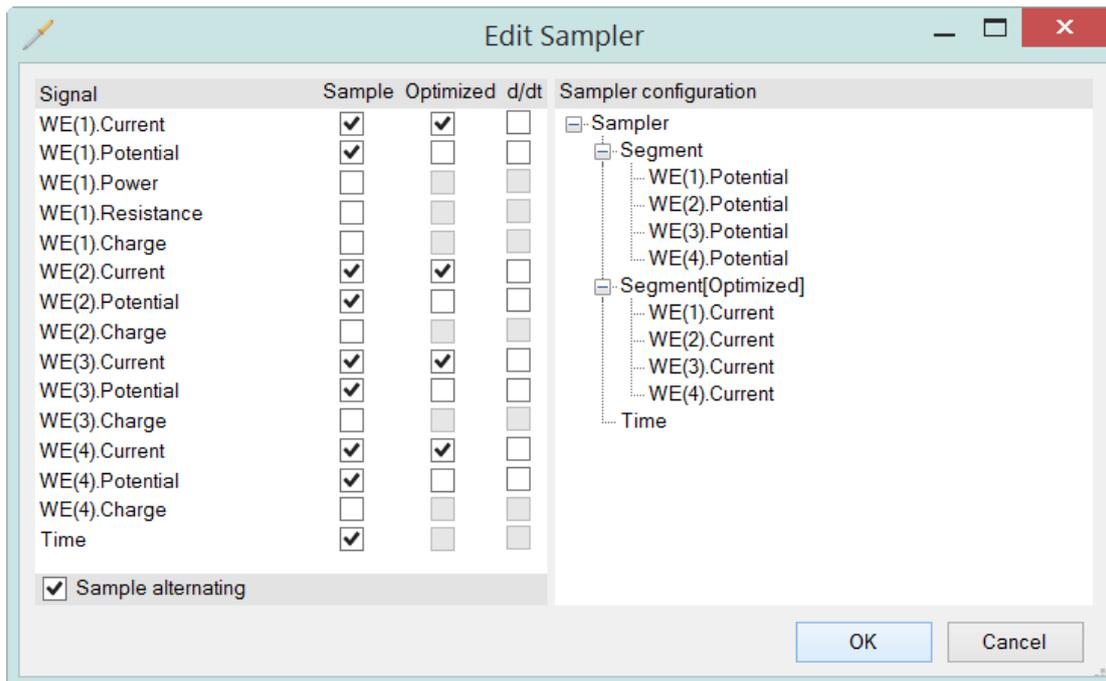
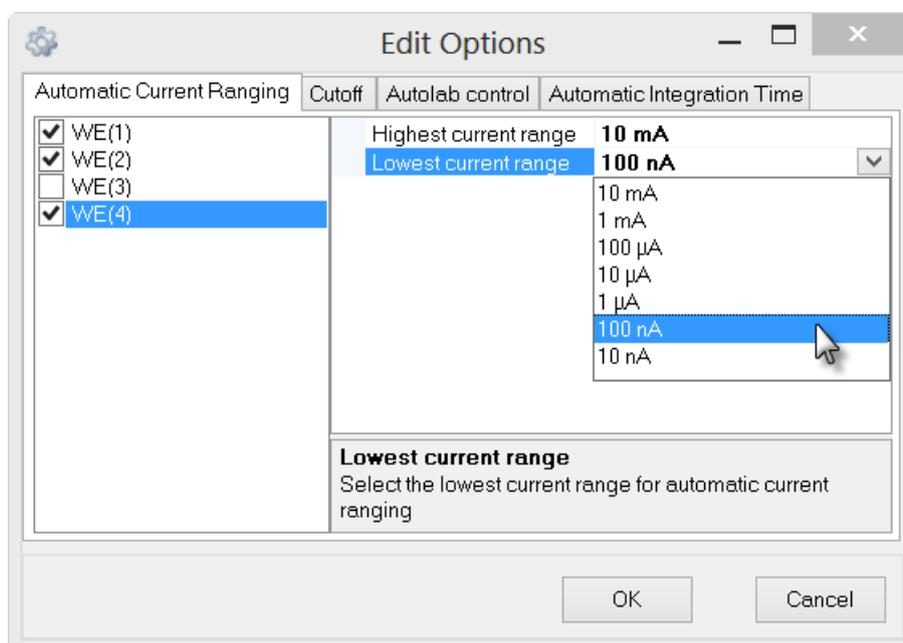

Figure 4 – The WE(X).Current, WE(X).Potential and WE(X).Charge signals are available in the signal sampler
Figure 5 – The automatic current ranging settings for WE(X)
Depending on the specified hardware configuration, the WE(X).Current, WE(X).Charge and WE(X).Potential signals will become available in the signal sampler (see Figure 4).
Clicking the Options button in the procedure editor frame displays the Edit options window. Depending on the number of BA modules specified in the hardware setup, several working electrodes will be listed in the Automatic current ranging tab (see Figure 5).
The example shown in Figure 5 corresponds to the hardware setup shown in Figure 4. The ACR option is used for WE(1), WE(2) and WE(4). This option is not used for WE(3).